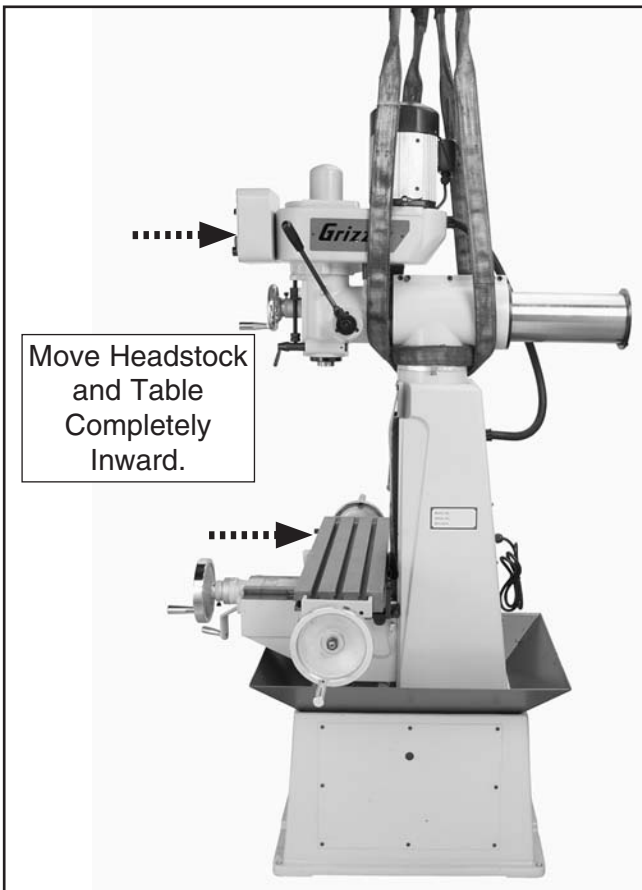

Figure 6. Lifting straps positioned.
1. After removing the crate sides from the shipping pallet, adjust the headstock and table as close to the mill body as possible, and install the lifting straps as shown in **Figure 6**.